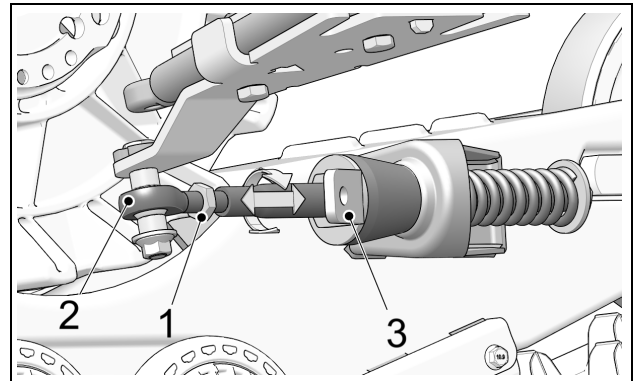

Figure 5
- Loosen jam nut (1). Adjust length of rod end (2) by rotating the steering limiter support plate on (3) the stabilizing arm. Use a 30 mm wrench to rotate support plate to obtain a perfectly centered bubble in the level. Refer to Figure 5.